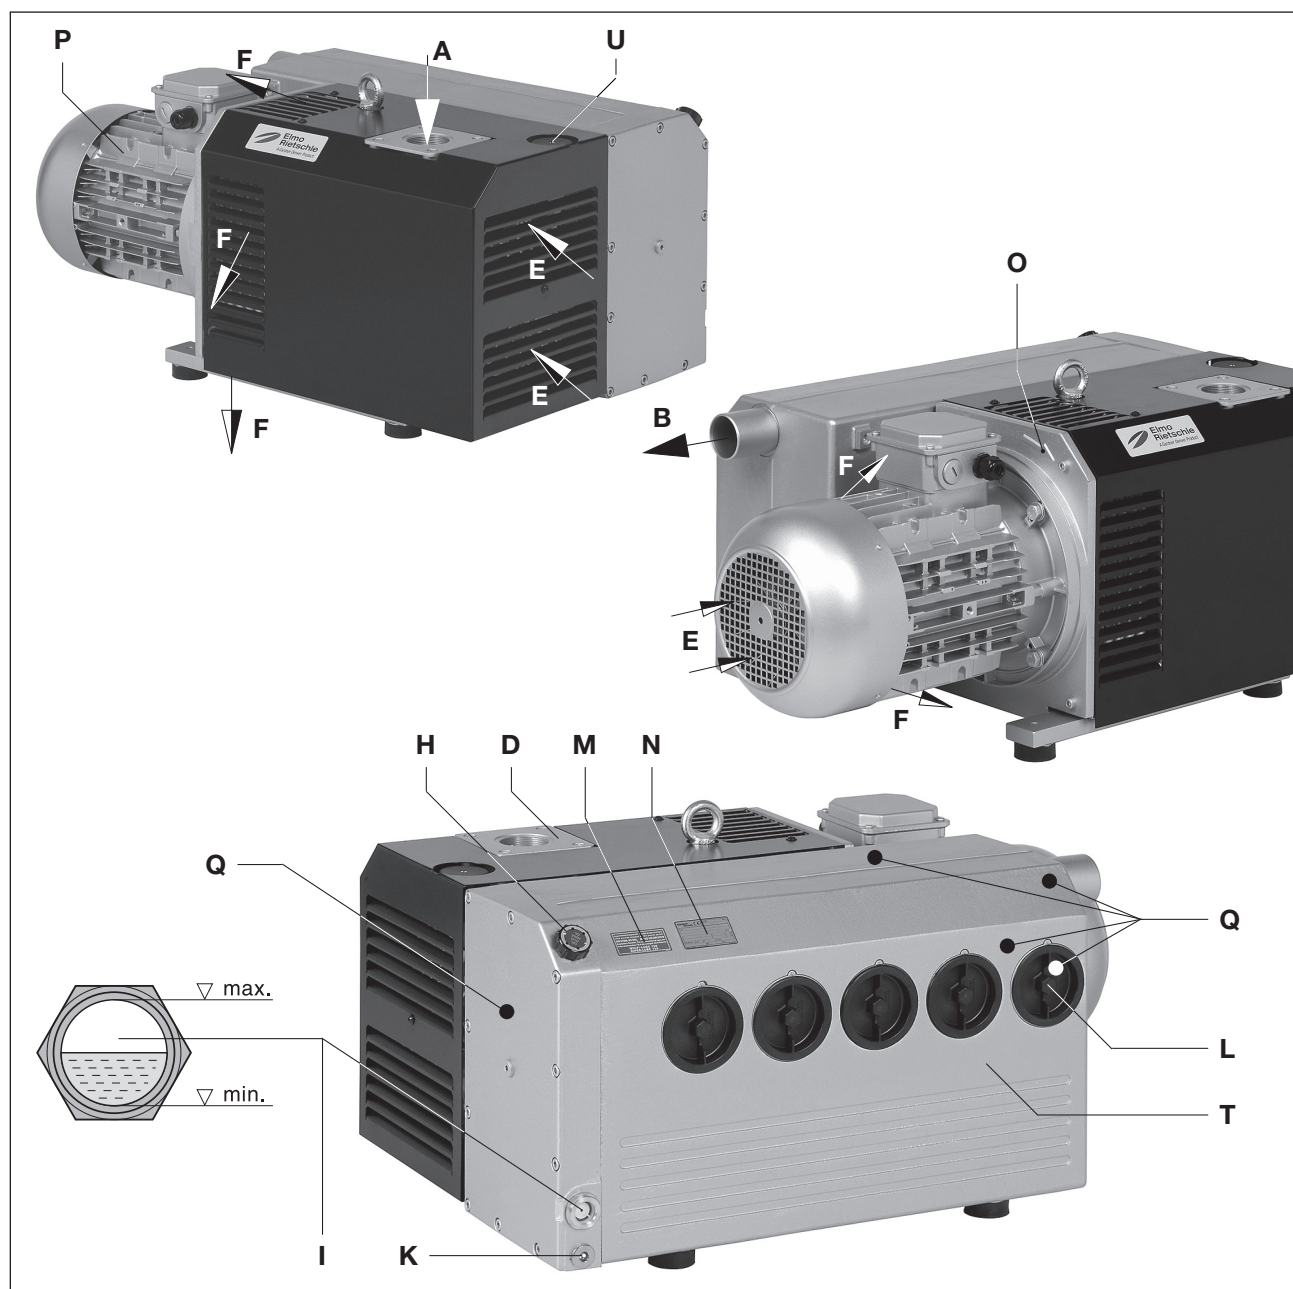

Fig. 2 Vacuum pump V-VC 202 / V-VC 303
A gas ballast valve fitted as standard (Fig. 2/U) prevents condensation of water vapour in the inside of the pump when low amounts of steam are sucked in when the pump is at operating temperature. A reinforced gas ballast (optional) can be used if there is a higher amount of water vapour.
The suction flange (Fig. 2/D), oil filling point (Fig. 2/H), oil sight glass (Fig. 2/I), oil outlet (Fig. 2/K), gas ballast (Fig. 2/U) and the oil removing device housing (Fig. 2/T) must be easily accessible. The cooling air inlets (Fig. 2/E) and the cooling air outlets (Fig. 2/F) must be at least 30 cm away from adjacent walls. Cooling air coming out must not be sucked in again. For maintenance work there must be a space of at least 50 cm around the machine.
Sealing or constricting of the exhaust air outlet (Fig. 2/B) may lead to severe or fatal injuries!
- a) The vacuum connection (Fig. 2/A) can be found on the suction flange (Fig. 2/D).
- b) The discharged air can be freely blown out through the exhaust air hole (Fig. 2/B) or conducted away using a hose or pipe.
- a) Fill the lubricating oil (for suitable types see the "Maintenance" section) via the oil filling point (Fig. 2/H) up to the upper edge of the sight glass (Fig. 2/I).
- a) The motor's electrical data is given on the data plate (Fig. 2/N) or on the motor data plate. The motors comply with DIN EN 60034 and are in protection class IP 55 and insulation class F. The appropriate connection diagram is located in the motor's terminal box (not for the plug connection version). Compare the motor data with the data of the existing mains network (current type, voltage, network frequency, permitted current value).
When the machine is at operating temperature the surface temperatures on the components (Fig. 2/Q) may go above 70 °C. You must avoid touching the hot surfaces (marked with warning plates).
- ▷ The drive shaft direction of rotation is shown by the rotation direction arrow (Fig. 2/O) on the motor flange.